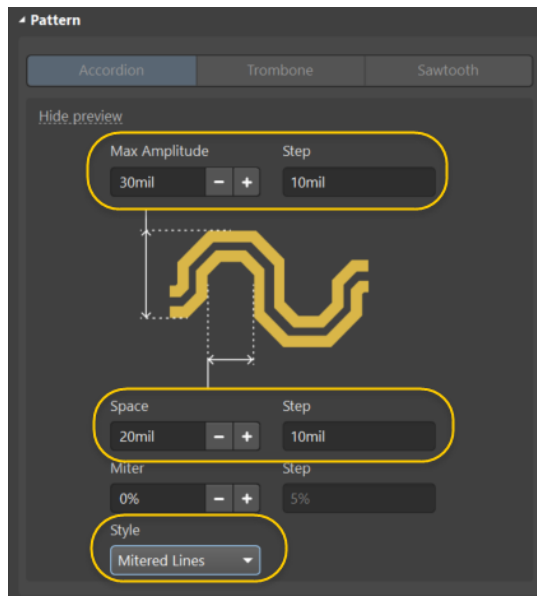

Figure 4. Differential Pair Tuning properties
21. In the *Pattern* section, set the values for the accordions as shown in Figure 4 below.